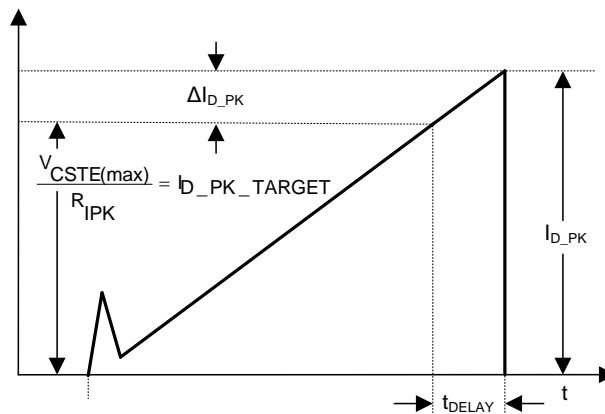

Figure 20. Propagation Delay Effect on the Primary Current Peak
During normal operation the on-time is determined by sensing the power FET current and switching off the power FET as this current reaches a threshold fixed by the feedback loop according to the load condition. The power FET is not immediately turned off and its current, that is also the primary winding current, continues to rise for some time during the propagation delay (t_{DELAY} in Figure 20). Keeping the reference for the PWM comparator constant, the value of the primary winding peak current depends on the slope of the primary winding current and t_{DELAY} .
The current loop estimates the output current assuming the primary winding peak current is equal to the $I_{D_PEAK_TARGET}$ and compares this estimated current with a reference to obtain the current regulation. Considering, I_{D_PEAK} is different from $I_{D_PEAK_TARGET}$ (see Figure 20) we need to compensate the effect of the propagation delay. The UCC28910 incorporates fully integrated propagation delay compensation that modifies the switching frequency keeping the output current constant during (CC) Constant Current Mode operation. This function is integrated in the controller and requires no external components. This feature keeps the output current constant despite input voltage variations and primary inductance value spread.